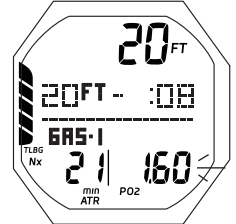

Fig. 93 - PO2 ALARM
- > When PO2 reaches 1.60, the Audible will sound during which the PO2 value (1.60) with icon will flash in place of Pressure (Fig. 93).